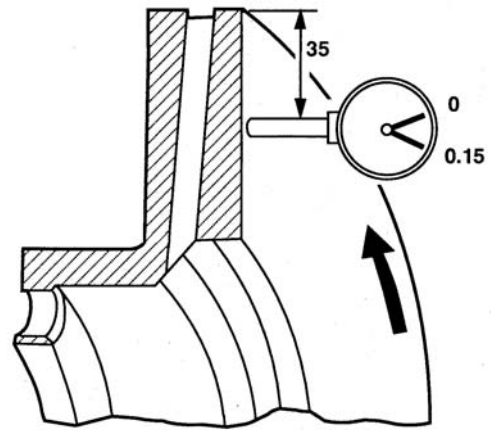

Fig. 22
- With the disc installed measure the runout by rotating the hub as shown in fig. 22. Limit 0.15 mm.